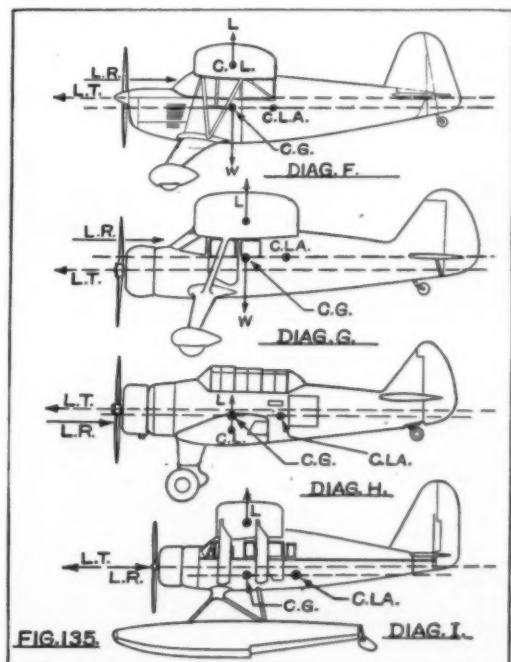

FIG. 135.
Let us look at Fig. 135, Diagram (F). Here we have a side elevation of a Rearwin Speedster. This outline is exactly the same as the large ship in all respects except that the wing has been given the proper amount of dihedral for a gas model and the landing gear has been lengthened in order to insure greater propeller clearance with the ground. This last characteristic also adds lateral area below the C.L.A. to compensate for the increased lateral area above the C.L.A. caused by dihedralizing the wing. The first step is to draw an accurate outline of the plane as shown in the diagram, then lay out the proper force arrangement and determine the proper C.L.A. of this craft. Next, the thrust line should be drawn in. After drawing the horizontal line through the C.L.A. parallel to the thrust line, mark the center of gravity on this line